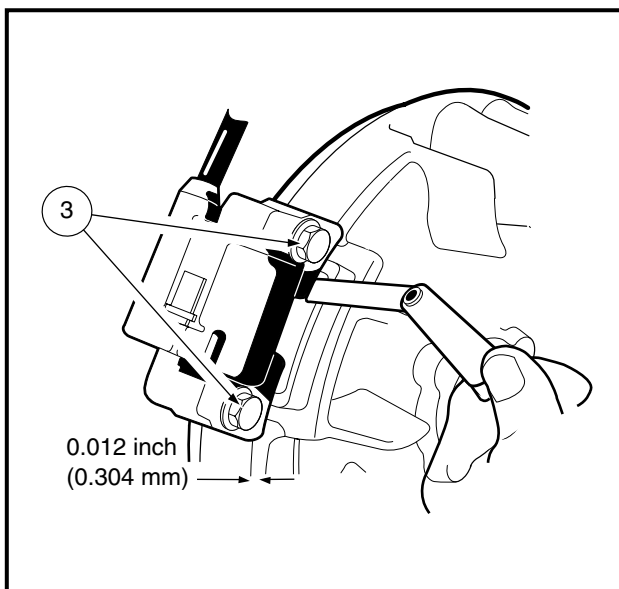

Figure 2-58 Adjust Ignition Coil Air Gap
2. Lightly tighten the two bolts (3), then use a bronze feeler gauge to adjust the ignition coil air gap to 0.012 inch (0.304 mm) (**Figure 2-58, Page 2-28**).